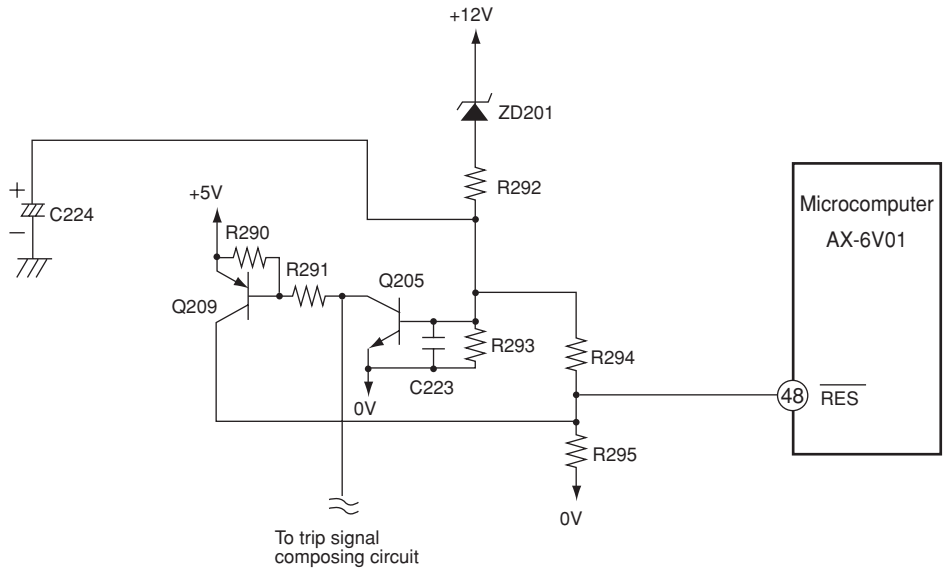
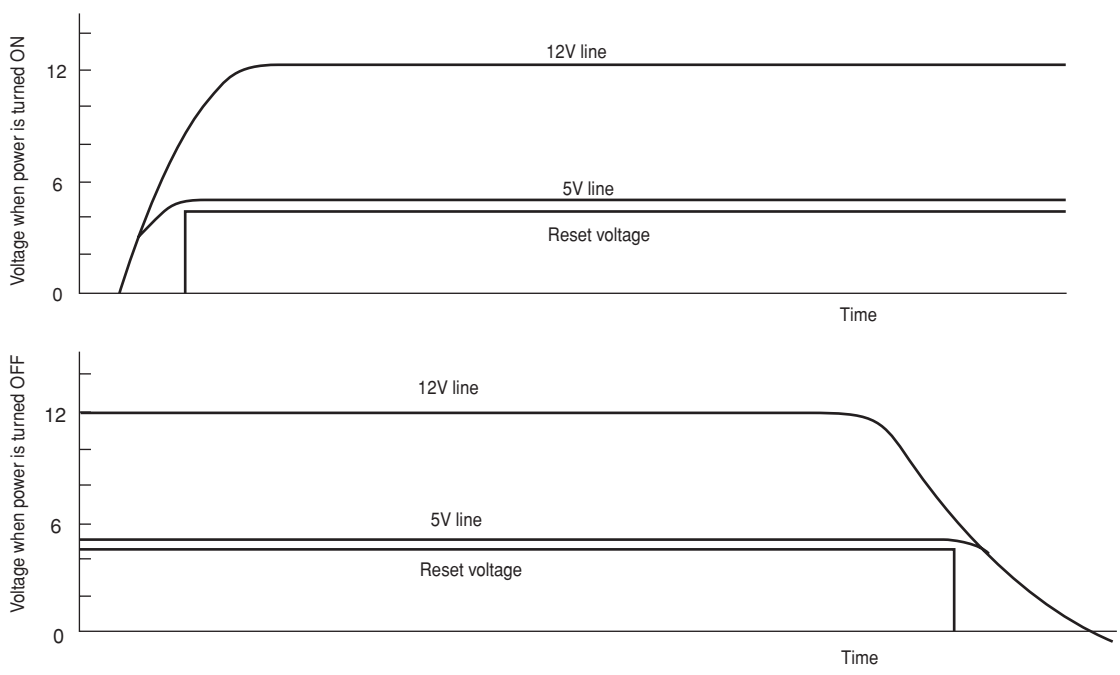

Fig. 9-1 [outdoor unit 1 or outdoor unit 2]
Fig. 9-2
- Fig. 9-1 shows reset circuit, and Fig. 9-2 shows waveforms at each point when power is turned on and off.